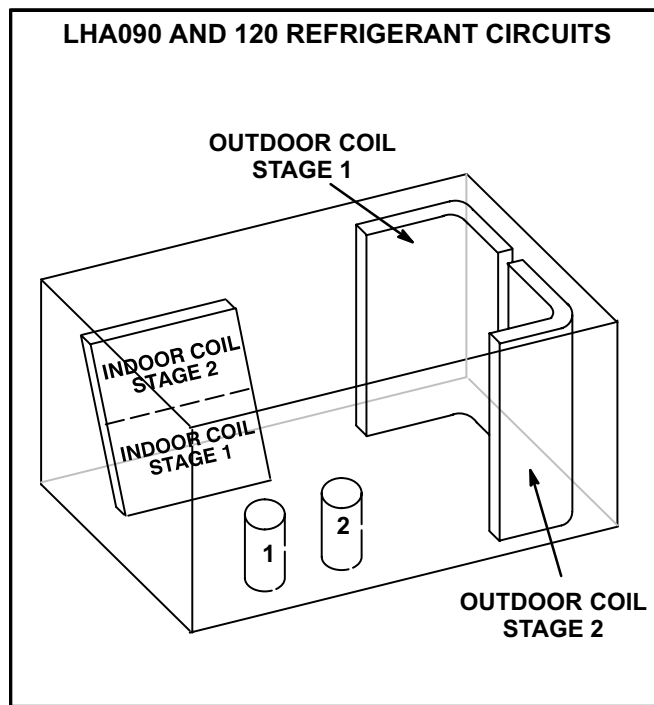

FIGURE 8
- 3- Units contain two refrigerant circuits or systems. See figure 8.